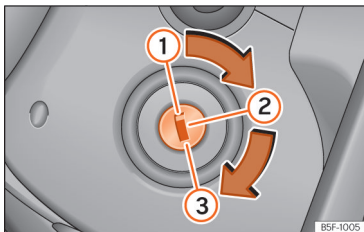

Fig. 240 Ignition key positions.
- »» Fig. 240.
- Remove the key from the ignition in position  »» Fig. 240 »» .